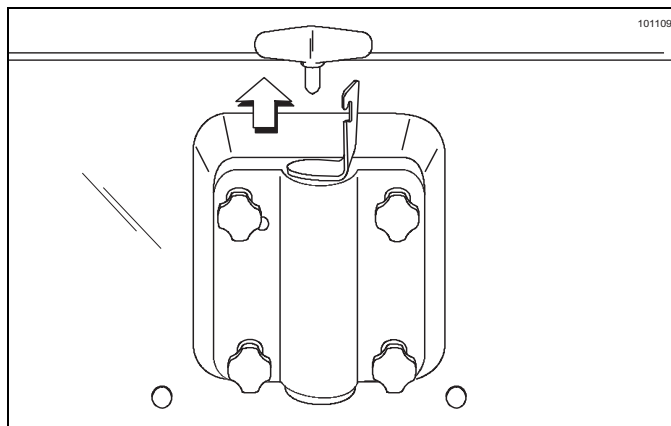

Figure 6-23
6. Place the control switch in the **Auto** position. Rotate the draw valve away from the draw arm as shown in Figure 6-23. Lift the draw arm to start the compressor.